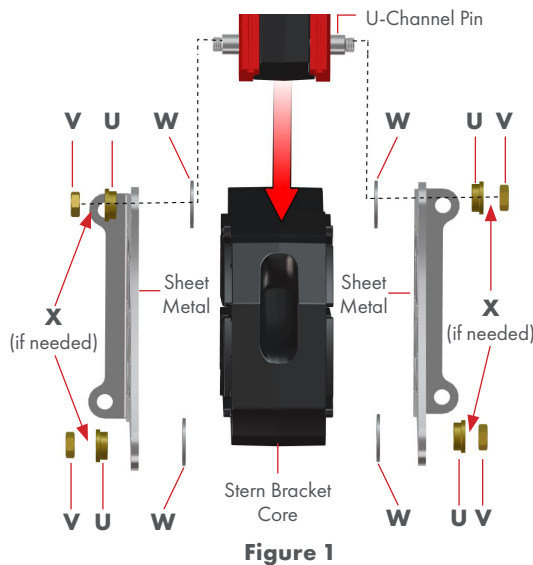
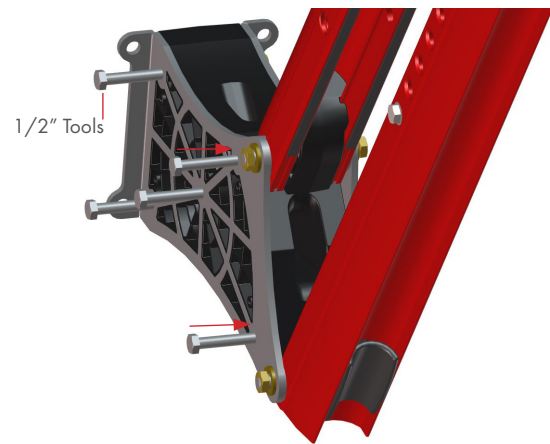

Figure 1
Figure 2
**STEP 1** Remove the (8) **phillips-head screws** that hold the (2) **shrouds** to the stern bracket assembly using a phillips screw driver. Then, remove **shrouds**. **FIG 1**
**STEP 2** Disconnect the **UP hose** from the **hydraulic cylinder fitting** by holding the **cylinder fitting base** with a **1/2" wrench** and turning the **hydraulic hose fitting** counter-clockwise with a **5/8" wrench**. **FIG 2**
**STEP 1** Install the (4) **bronze bearings (U)** into the **sheet metal**. **Bronze bearings (U)** need to be driven into the **sheet metal** with a rubber mallet until flush. **FIG 1**
**STEP 2** Line up the u-channel with **bronze bearings (U)** and install each **u-channel pin** through the **sheet metal**, **plastic washer (W)**, u-channel, and **stern bracket core**. **FIG 1**
**STEP 3** Place a **plastic washer (W)** on each **u-channel pin** and install the other **sheet metal**. If there is space between the sheet metal and threads on the **u-channel pin**, install either (1) or (2) **1/2" washers (X)** to the **u-channel pin**. Install a **jam nut (V)** on each **u-channel pin** and tighten snug using a **9/16" socket & wrench**. **FIG 1**
**IMPORTANT!** Do not use an impact to tighten **jam nuts (V)**.
**STEP 4** Insert the (5) **5/16" bolts** into the **stern bracket** assembly and tighten the (5) **5/16" lock nuts (I)** with a **1/2" socket & wrench**. **FIG 2**